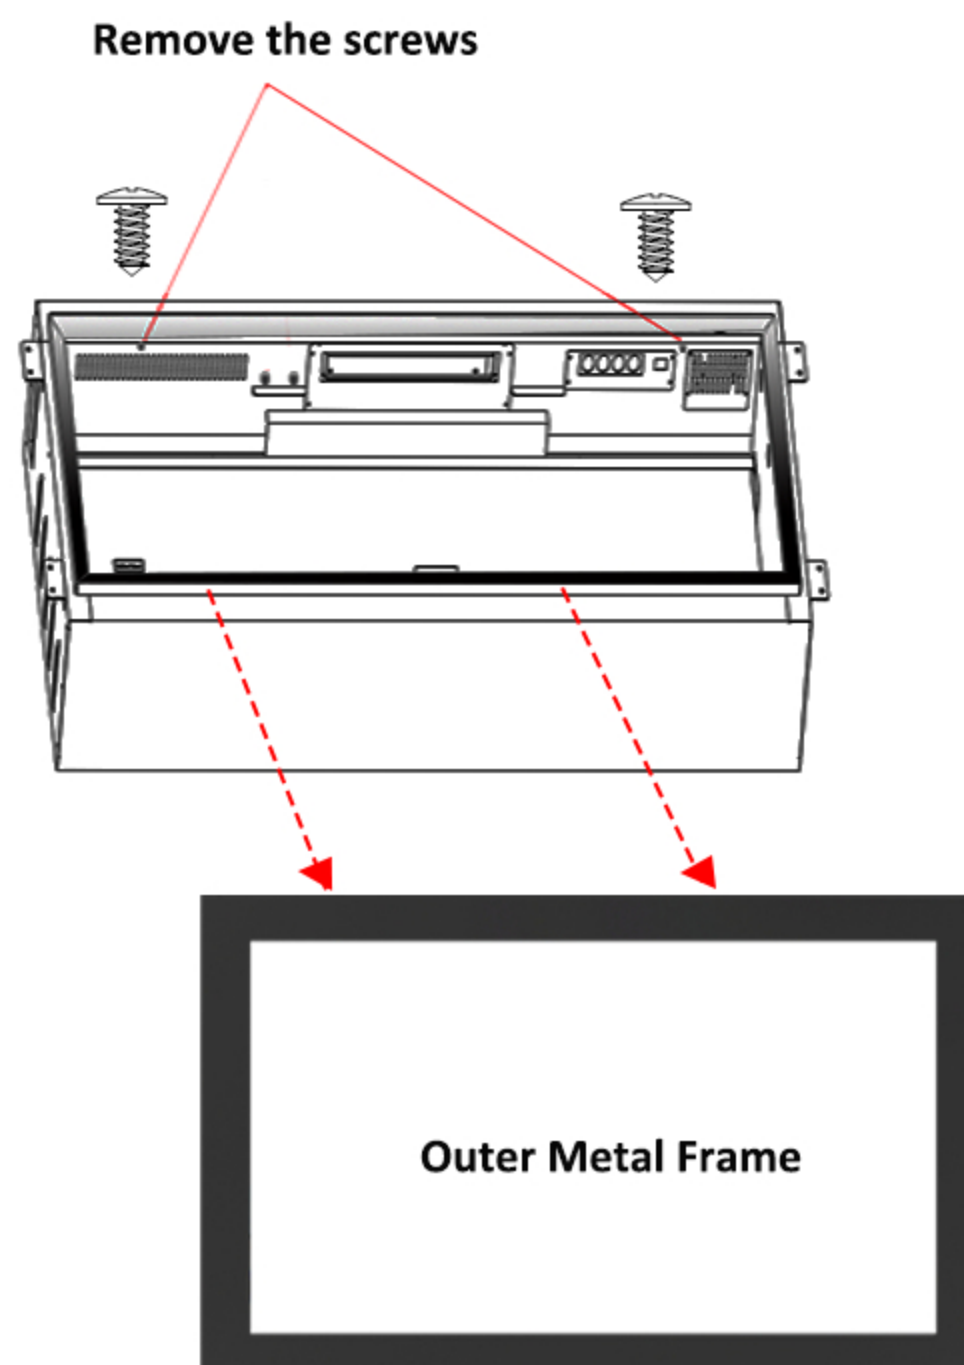

Figure 4
3. After finishing the above work, the next step is to loosen and remove the two screws that lock the outer frame, then take out the front trim piece. (see Figure 4)